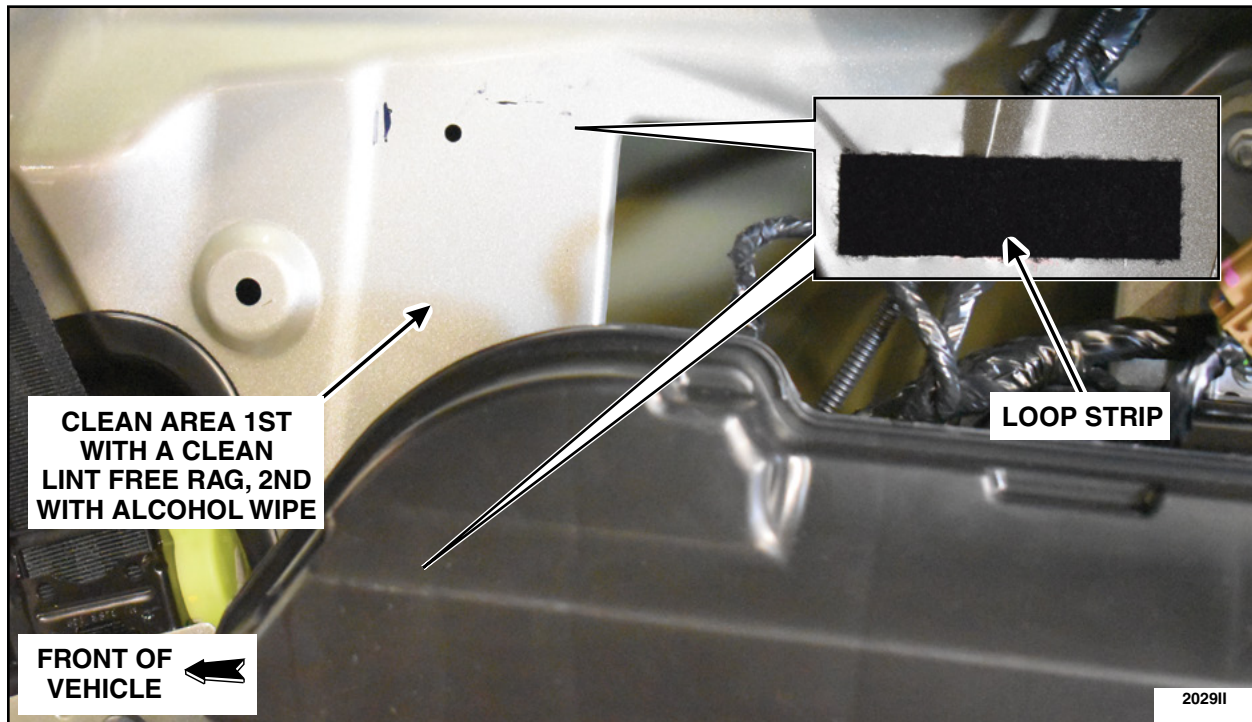

FIGURE 8
9. Clean the surface and apply loop strip. See Figure 8.